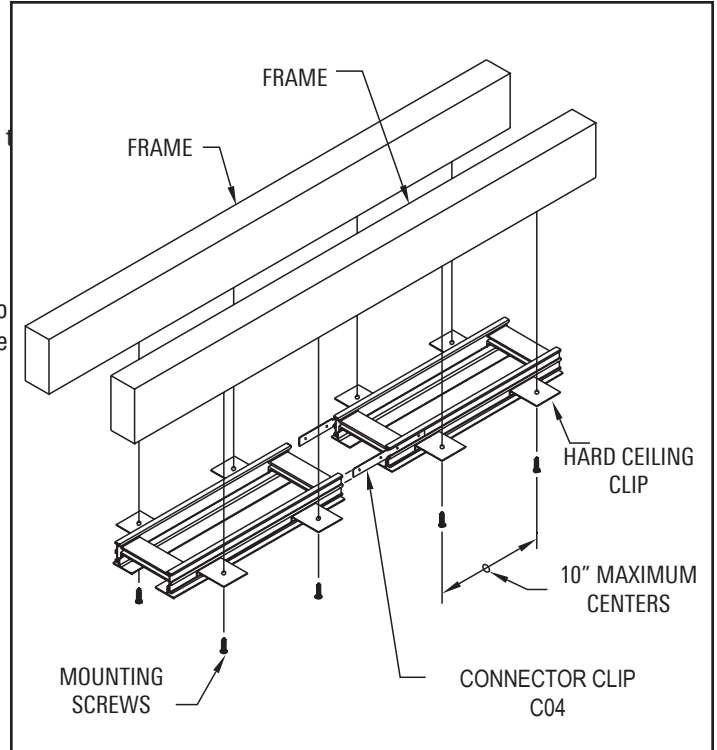

Figure 4. Installation of Diffuser in Ceiling
□ Lift the 353 5. Diffuser into the framed opening and secure the Mounting Clips to the frame with flat head screws as shown in Figure 4.
□ If multiple sections of 353 5. are required, repeat previous step by lifting additional sections into the framed opening. Be sure to insert Connector Clips- into the 353 5. ends to insure a tight and aligned connection as shown in Figure 4.